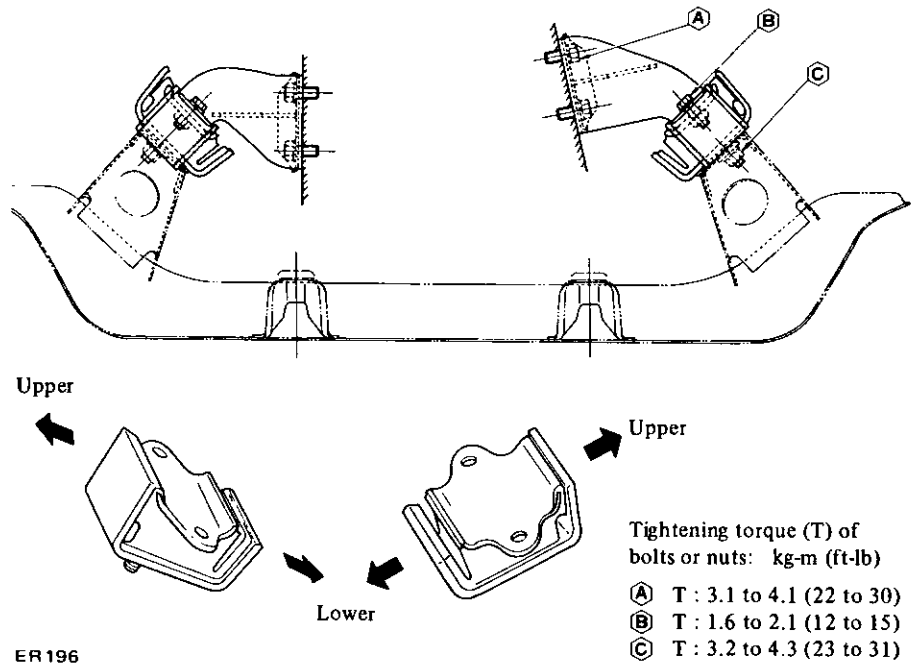

Fig. ER-18 Sectional view of front engine mounting, and front insulator
Left and right front insulators are identical, and are interchangeable. See Figure ER-18.
1. Both the left and right front insulators are used commonly. However, when installing them, pay attention to their upper and lower directions. See Figure ER-18.
2. The shape of the right side bracket differs from that of the left side bracket. Tighten the bolts and nuts correctly and securely. See Figure ER-18.